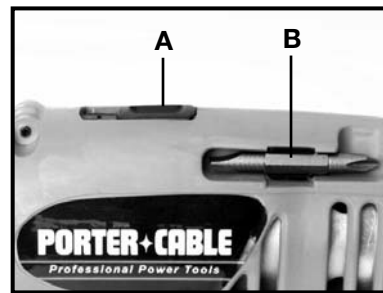

Fig. 4
The Models 866, 876, and 878 Cordless Driver/Drills have a two-speed gear shift which provides spindle speed ranges of approximately: 0 to 350 RPM (LOW) and 0 to 1200 RPM (HIGH) for Model 866; 0 to 450 RPM (LOW) and 0-1450 RPM (HIGH) for Models 876 and 878. To change speed ranges: release trigger switch to stop motor and then slide speed selector (A) Fig. 4, toward rear for HIGH speed or toward front for LOW speed.
Convenient storage areas with retaining clip (B) Fig. 4, for screwdriver bits are provided on each side of the tool.